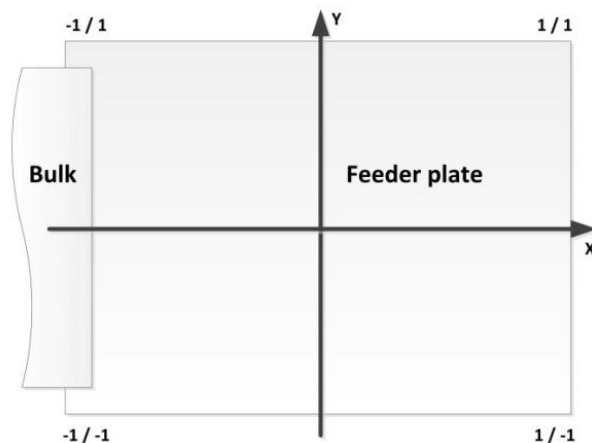

Figure 9-1: Platform Normalized Coordinate System
Step 2	<p>Execute a Sequence</p> <p>Command {ES:(23;40;-1;1;5)} Response {ES:(23;40;-1;1;5; 1560)}</p> <p>23 parts were detected on the picking zone, at 40 parts there is no feeding of new parts. The location of the center of mass of parts is located in the back left corner (x = -1, y = 1, see Figure 9-1). The Sequence to use is Sequence 5. As a response, the system returns the exact duration of the Sequence (here 1560ms).</p>
The positions on the platform are normalized and defined as shown in the Figure 9-1 below.